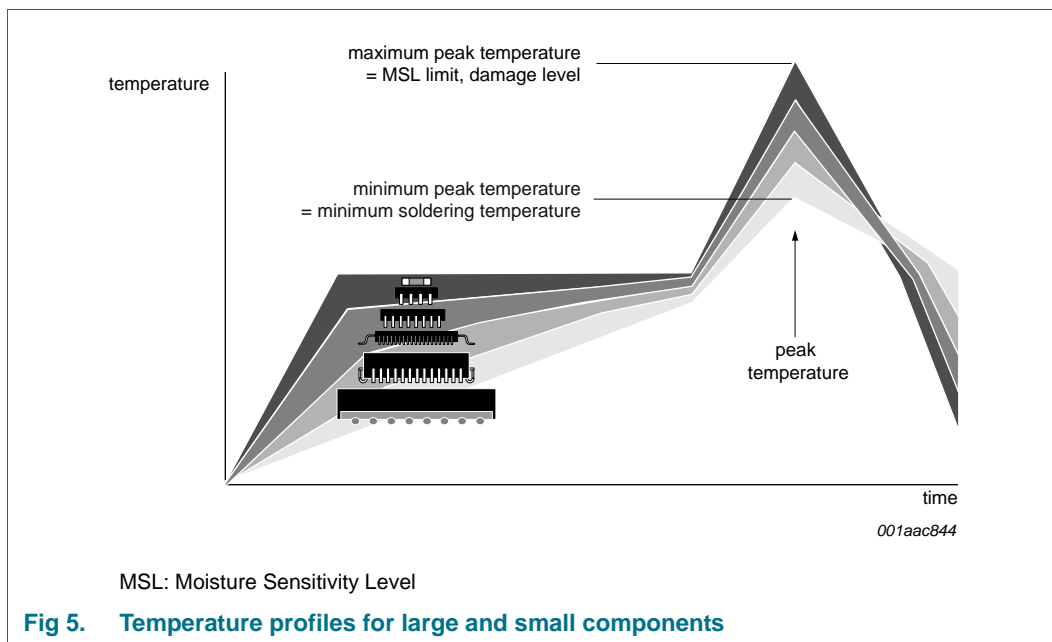

Fig 5. Temperature profiles for large and small components
- Lead-free versus SnPb soldering; note that a lead-free reflow process usually leads to higher minimum peak temperatures (see Figure 5) than a SnPb process, thus reducing the process window
Studies have shown that small packages reach higher temperatures during reflow soldering, see Figure 5.